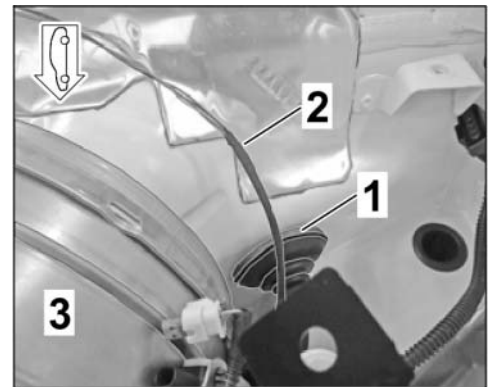

Figure 12
2.3.3 Remove grommet on bulkhead (LHD vehicle: left side) ⇒ *Figure 12*